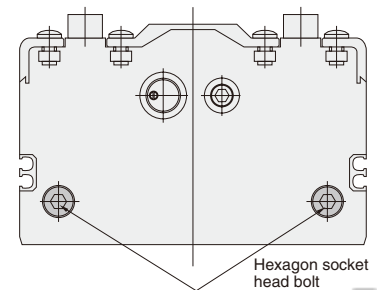

Figure 2
3. To mount the shock absorber in the opposite side on the table, first it is necessary to move the long nut inside the T-slot that is used to install the unit to the T-slot on the other side. In this case, the long nut can be moved by loosening the hexagon socket head bolts in 2 locations on the side plate positioned opposite the connection port (**Figure 2**) and then removing the side plate.